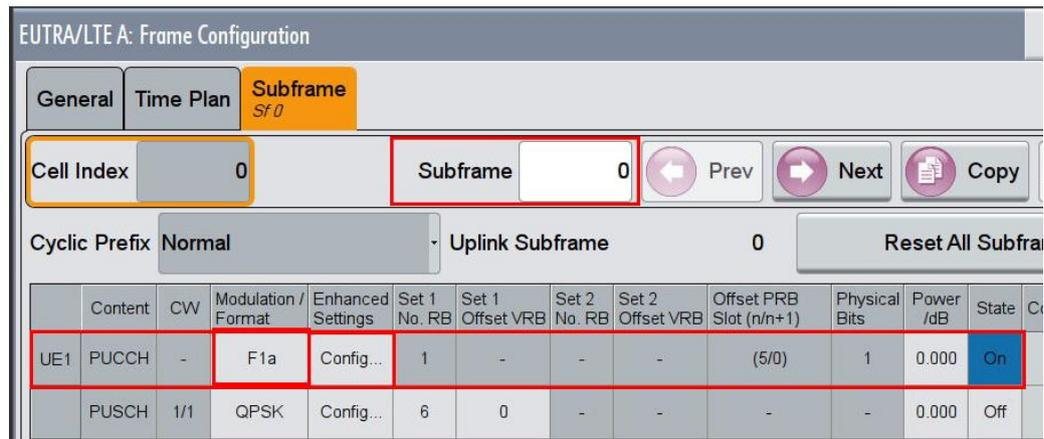

Fig. 3-85: PUCCH with format F1a in subframe 0
- Set for the PUCCH the **Format** to **F1a** and the state **On** (Fig. 3-85)